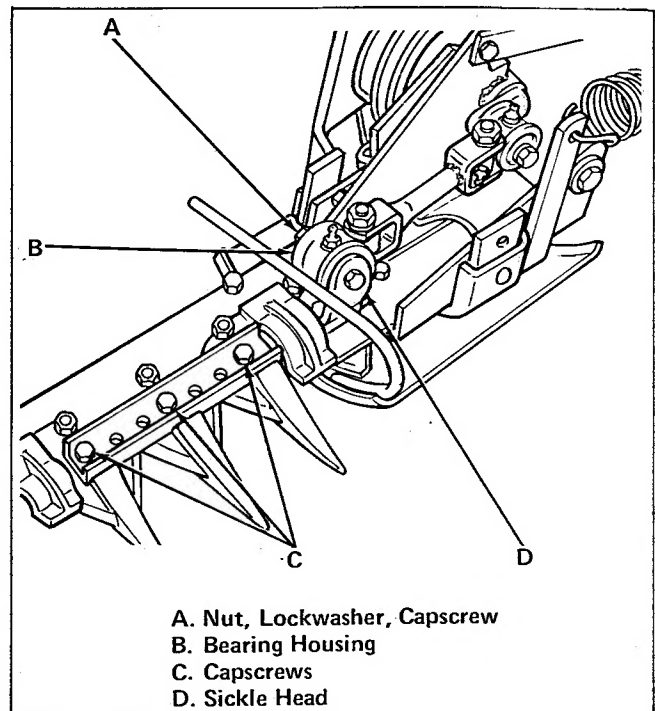

Figure 12. Sickle Knife Removal
1. Remove nut, lockwasher and capscrew (item A, figure 12) and lift housing (item B) out of the way.